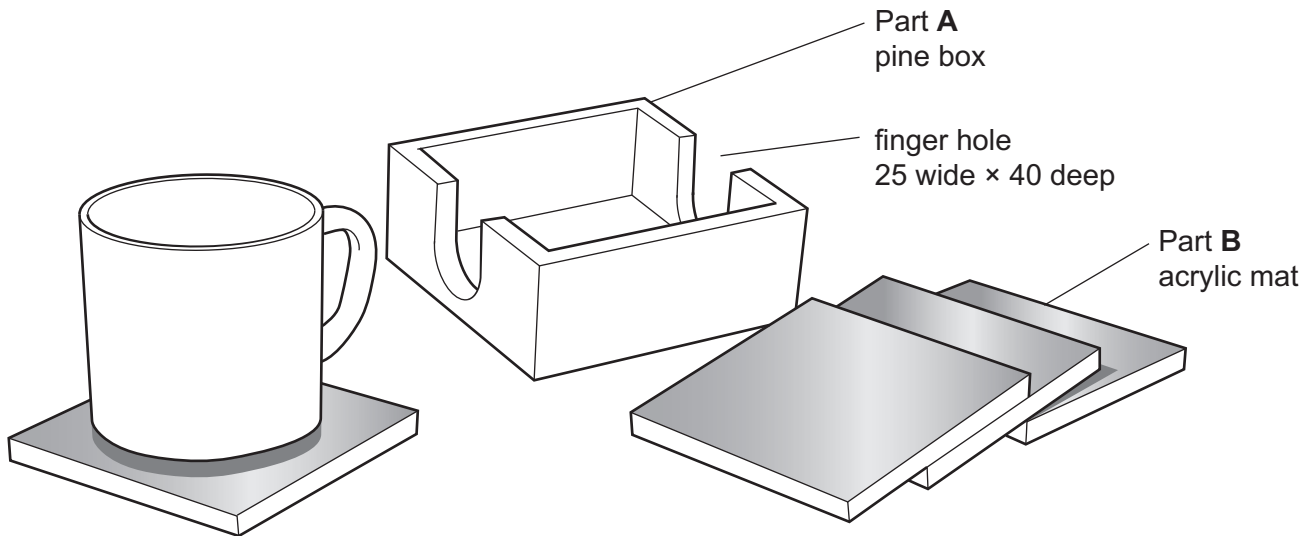

Fig. 1.1
- 1 Fig. 1.1 gives details of a set of mats which are to be made in a school workshop.